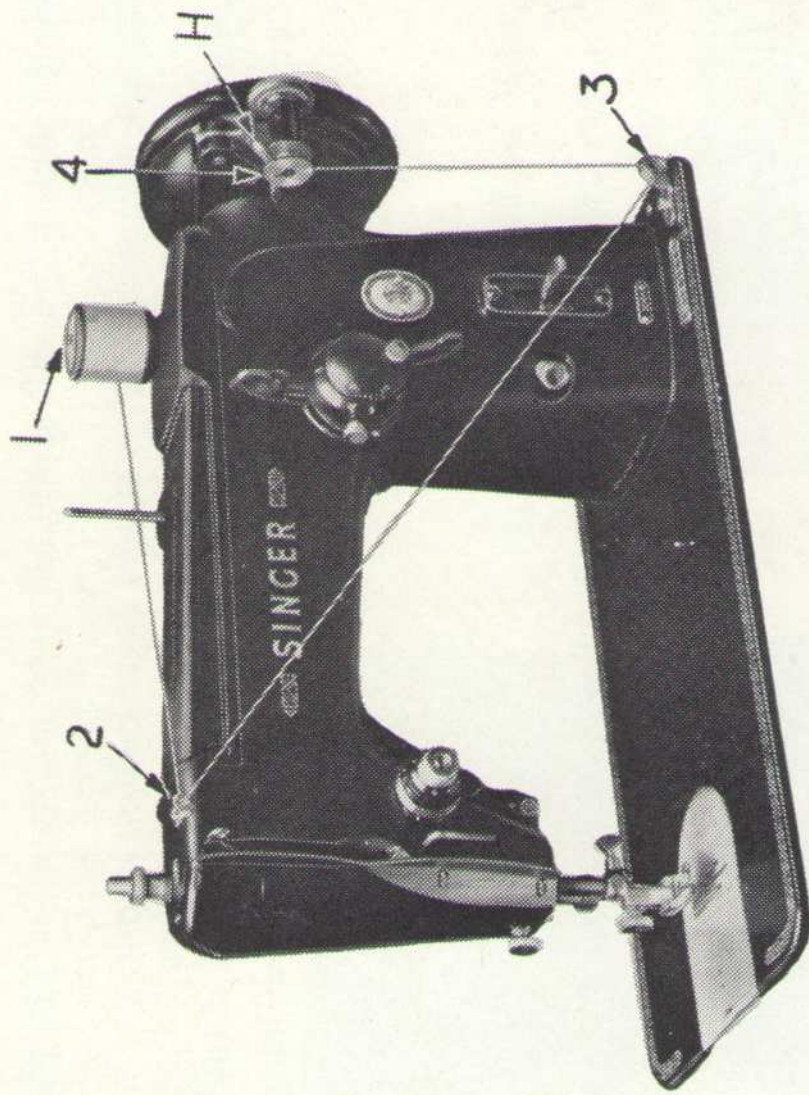

Fig. 8. To Wind the Bobbin.
*See Figs. 8 and 9.*
Allow tension discs **3**, **Fig. 8** to control flow of thread so that it winds on bobbin in uniform level rows. Do not guide or hold thread when winding bobbin.
The bobbin winder will stop automatically when the bobbin is filled. When less than a full bobbin is desired, lift latch **H**, **Fig. 8**.